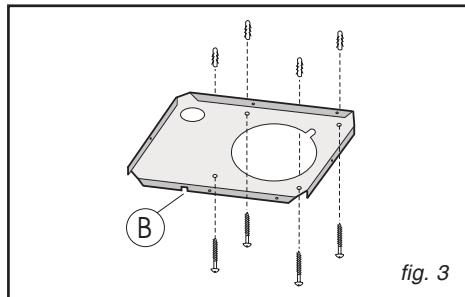
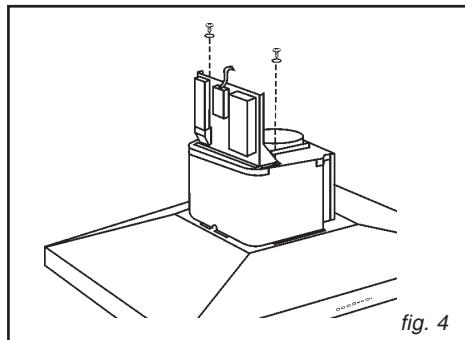

fig. 3
fig. 4
- Fix the bracket to the ceiling using the screws and screw anchors provided (Fig. 3). Be careful, because the position of the bracket determines the final position of the apparatus: the side with the slot B corresponds to the side opposite the controls. Fit the electrical system plate, securing it with 2 screws and 2 washers (Fig.4).